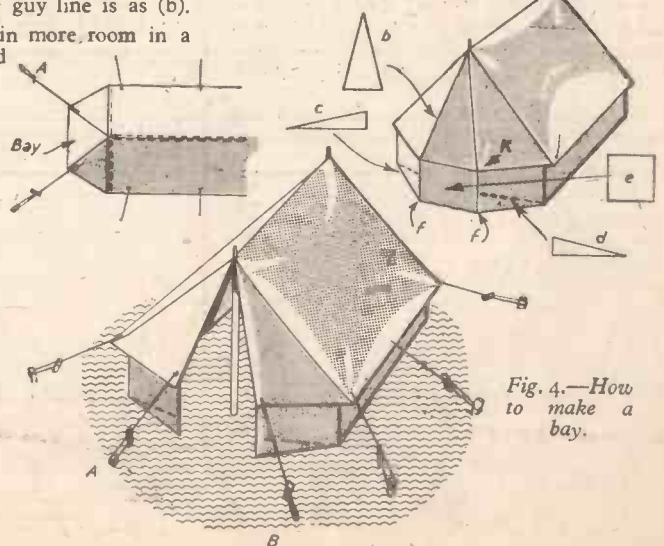

Fig. 4.—How to make a bay.
To make a bay, erect the tent, and fitting new guys (A) and (B) pull the existing flaps at the end to an angle (Fig. 4). Now cut three triangular pieces of material approximately equal in weight to that of the tent material. The pieces are (b) to fit between the ends of the flap, and the other two,